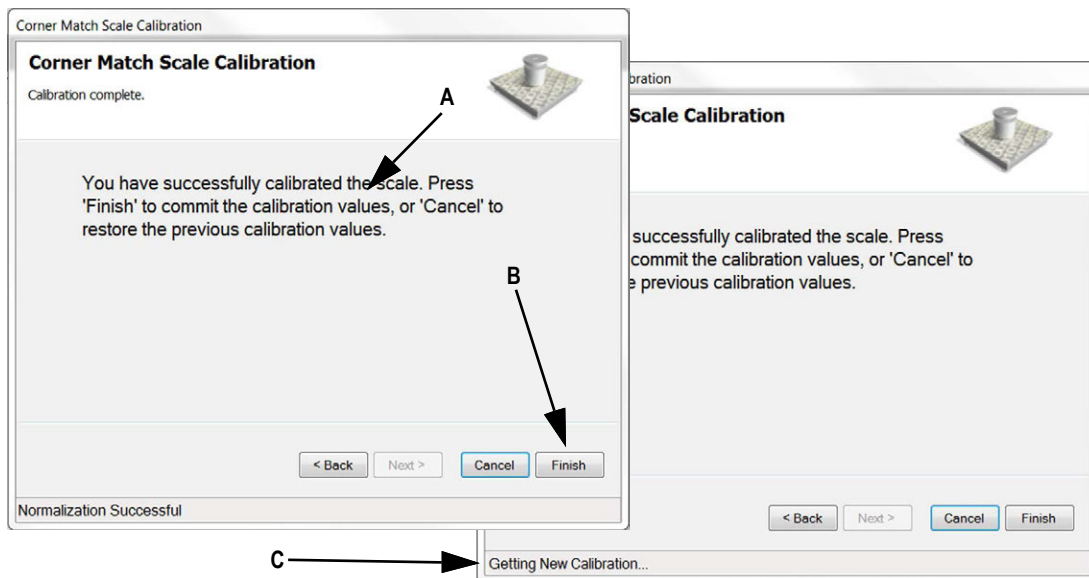

Figure 4-56. Finish Calibration
12. A message that you have successfully calibrated the scale will appear (Figure 4-56 A) then press **Finish** (Figure 4-56 B).
A message appears in the bottom of the frame "Getting New Calibration" (Figure 4-56 C). When done the pop up box will disappear and calibration is complete.